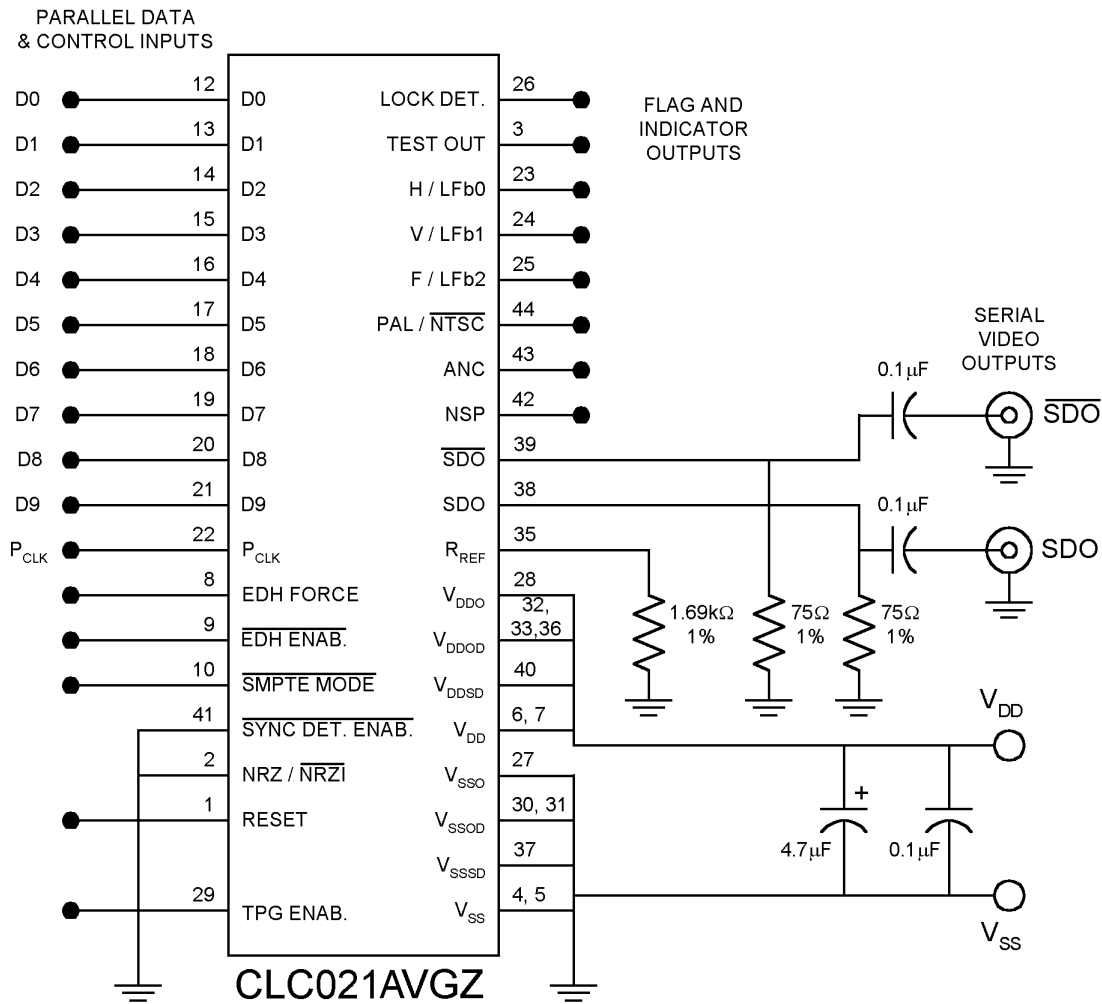

Figure 3. Test Circuit
(1) Typical values are stated for V_{DD} = +5.0V (CLC021AVGZ-5.0) or +3.3V (CLC021AVGZ-3.3) and T_A = +25°C.
(2) R_L = 75Ω, AC-coupled @ 270 M_{bps}, R_{REF} = 1.69 kΩ 1%, See TEST LOADS and Figure 3.
(3) CLC021 mounted in the SD021EVK board, configured in BIST mode (NTSC colour bars) with P_{CLK} = 27 MHz derived from Tektronix TG2000 black-burst reference. Timing jitter measured with Tektronix VM700T using jitter measurement FFT mode, frame rate, 1 kHz filter bandwidth, Hanning window.
(4) Specification is ensured by design.
(5) Measured from rising-edge of first P_{CLK} cycle until Lock Detect output goes high (true).